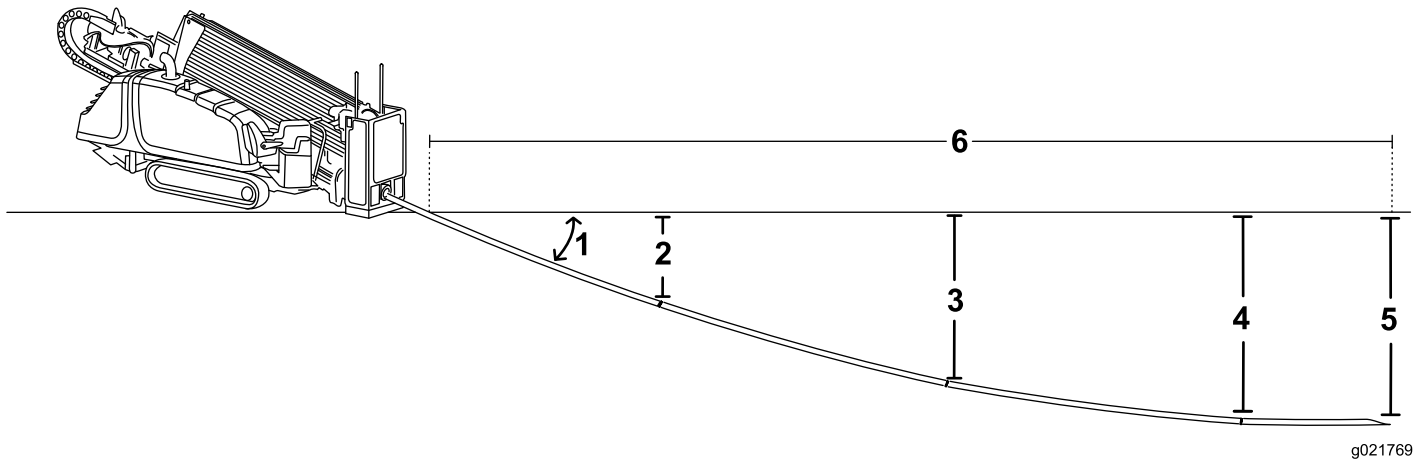

Figure 55
- You insert the first 3 m (10 ft) of drill bit/pipe into the ground with no steering. The end of the drill bit will be 53 cm (21 inches) deep (Figure 55).